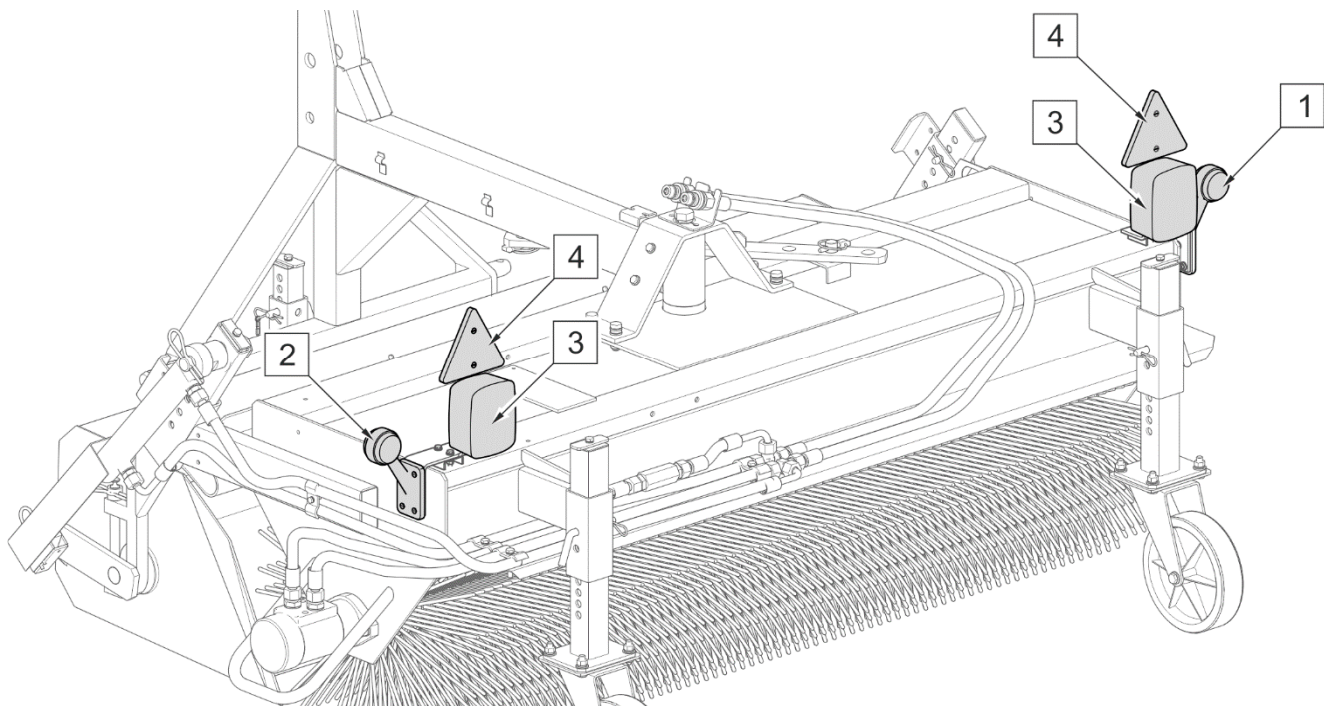
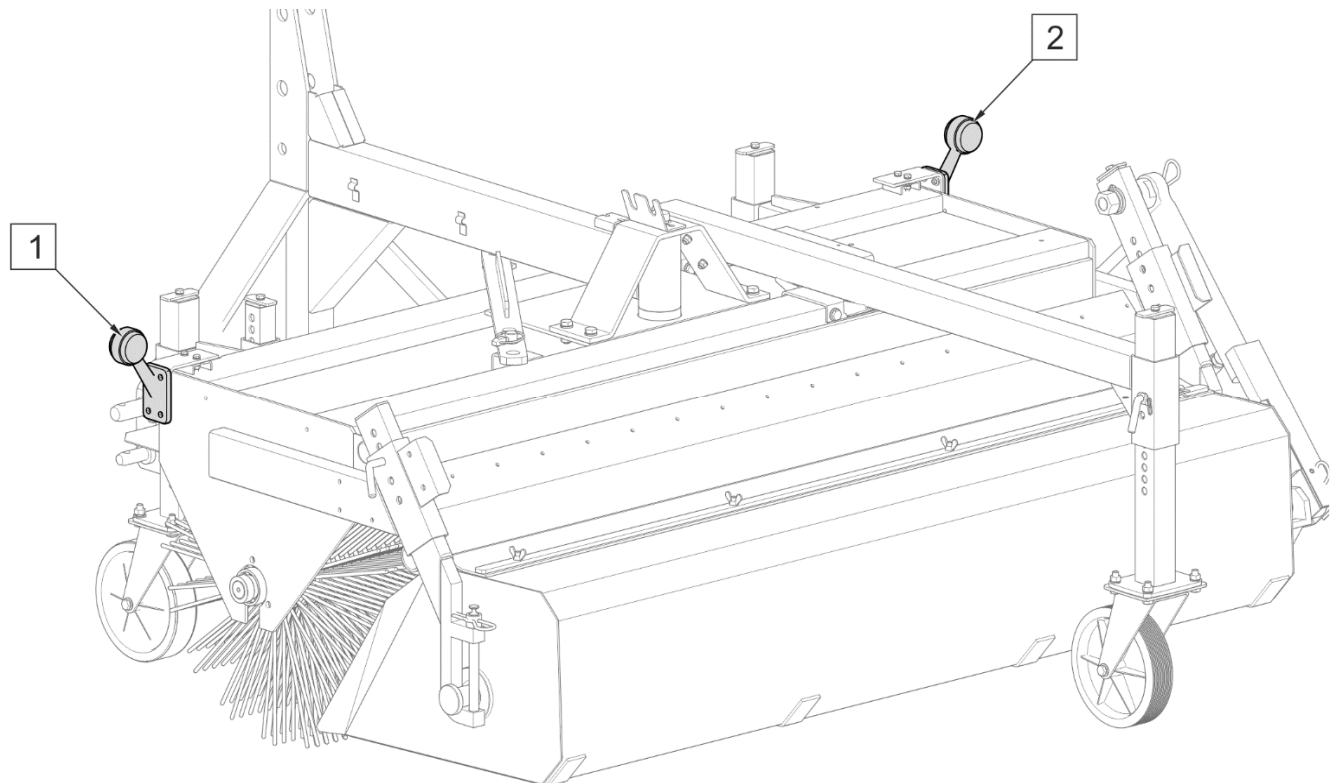

FIG. 4.10 Additional lights for the rear-mounted sweeper
FIG. 4.11 Additional lights for the front-mounted sweeper
(1) - bracket; (2) - slow-moving vehicle warning sign (not included in the machine equipment)
- Additional lights should be used if the sweeper obscures the lights installed at the back of the carrying vehicle (FIG. 4.10). The lights should be used for the front-mounted sweeper.(FIG. 4.11)